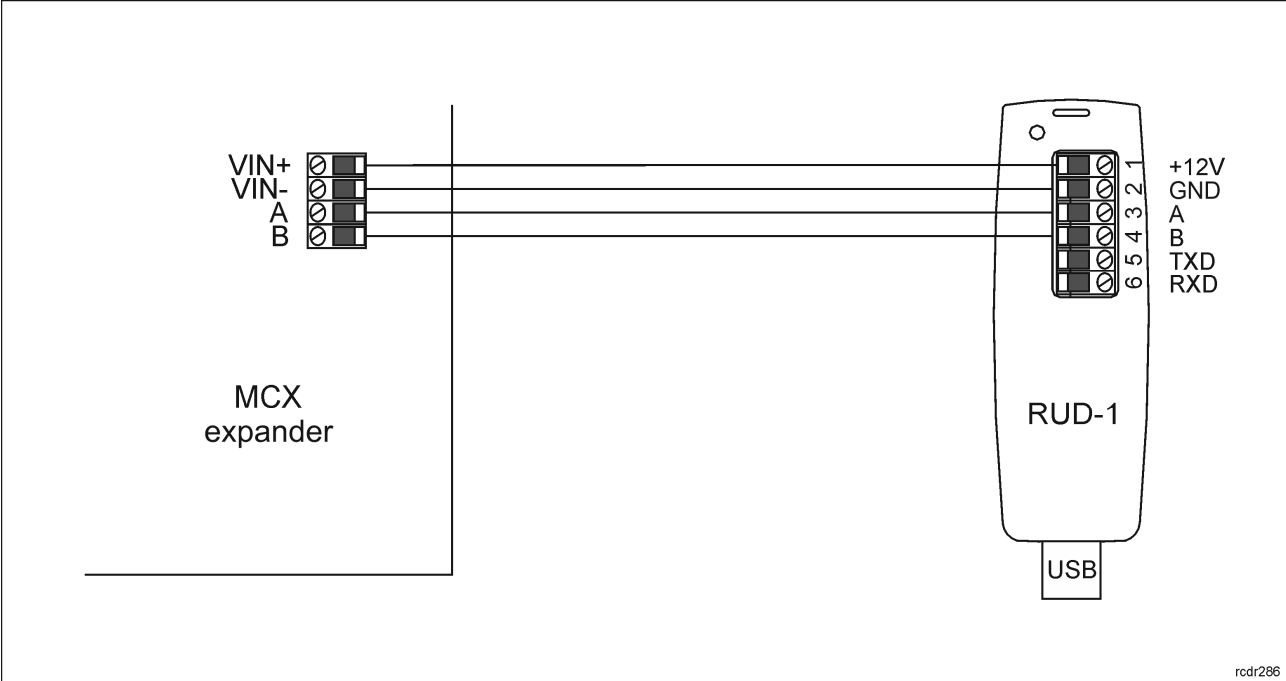

Fig. 7 Connection to RUD-1 interface (low level configuration)
1. Connect the device to RUD-1 interface (fig. 7) and connect the RUD-1 to computer's USB port.
- 1. Connect the device to RUD-1 interface (fig. 7) and connect the RUD-1 to computer's USB port.